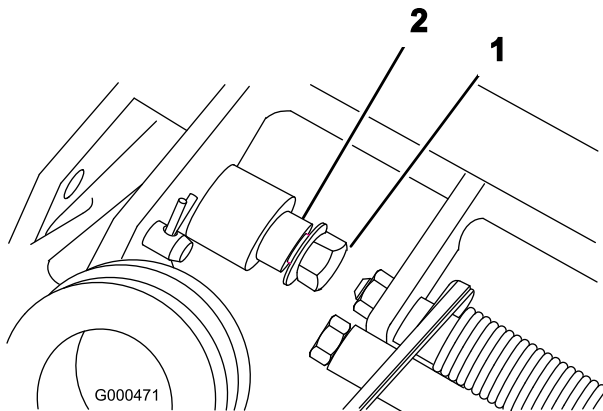

Figure 4
1. Remove the flange lock nut from the bolt and pivot pin on each side of the mower (Figure 4).